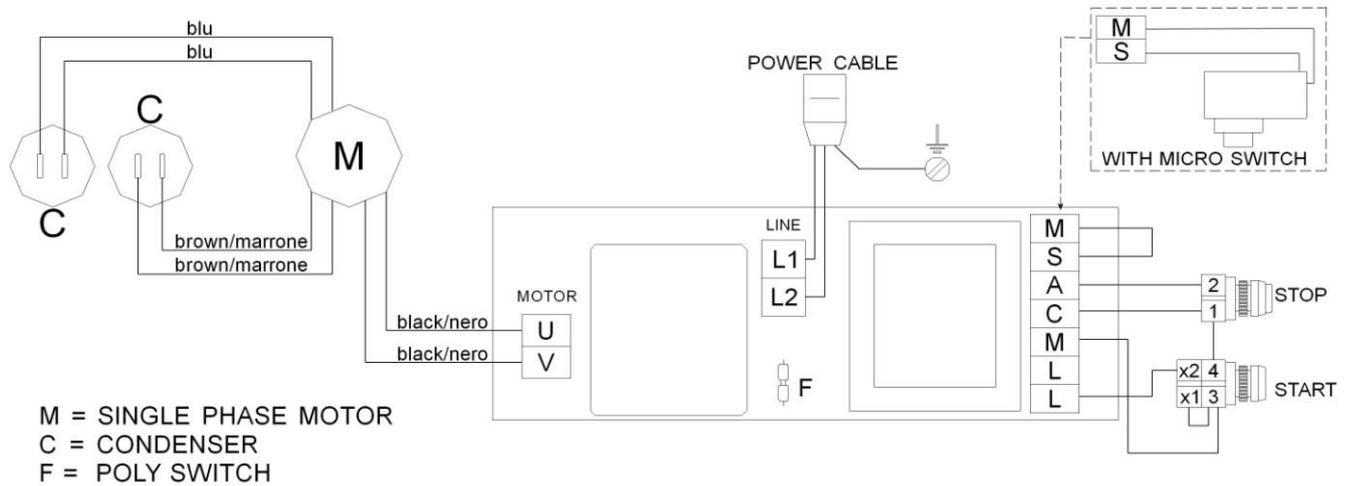

Figure 13 - 230 V single phase wiring diagram with SCHUKO plug
4. (Fig. 13) press the button (3), allow the blade to turn in contact with the wheel for about 30/40 seconds so that a slight burr forms on the edge of the blade;
5. (Fig. 13) press both buttons (3 and 4) at the same time for 3/4 seconds, then release them both at the same time.